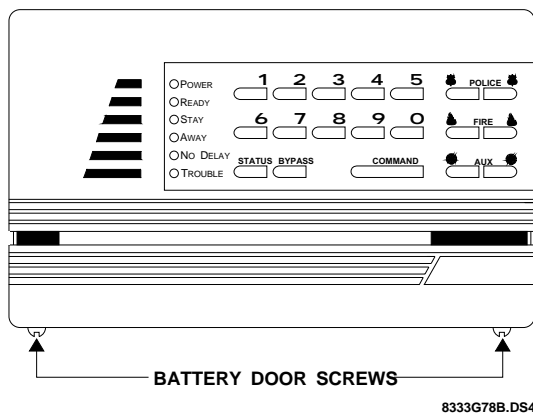

Figure 1. Loosen the two battery door screws
- Loosen the two screws on the bottom of the panel until you can slide the battery door down and out (see Figure 1). Two full turns should be enough to allow you to remove the battery door without removing the screws completely.